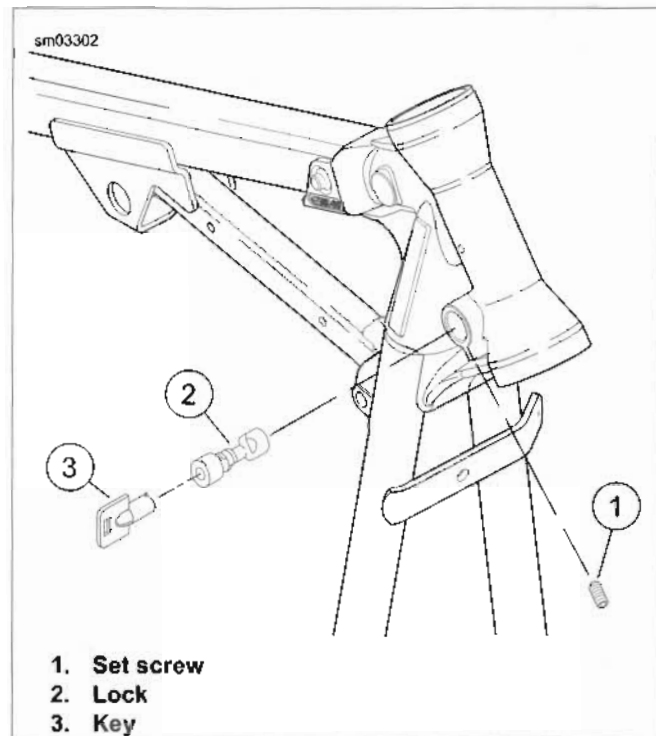

Figure 2-130. Fork Lock Installation
2. See Figure 2-130. Remove set screw (1).
3. Insert key (3) in lock (2) and turn partially.
4. See Figure 2-130. Apply LOCTITE 243 MEDIUM STRENGTH THREADLOCKER AND SEALANT (blue) to set screw (1).
6. Insert key in the lock and tighten set screw (1) until lock begins to bind; then back set screw out 1/2 turn.